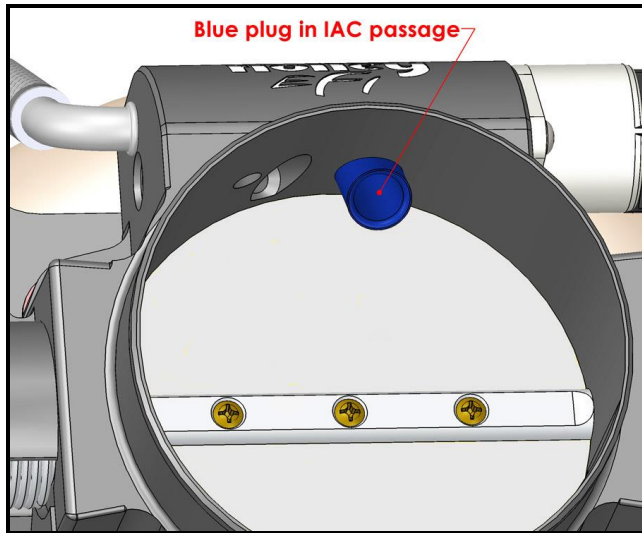

Figure 7
2. Remove the air intake duct and press the supplied blue plug into the IAC passage (**Figure 7**).